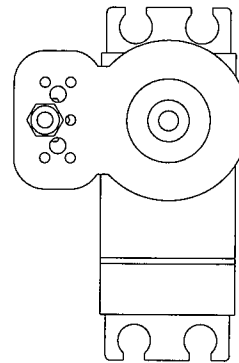

Figure 83A
Step 12. With the radio system still on, attach the steering servo horn to the servo plugged into "channel 1" in the receiver so that it is aligned as shown in figure 83A. Secure the servo horn with the screw supplied with your servo.